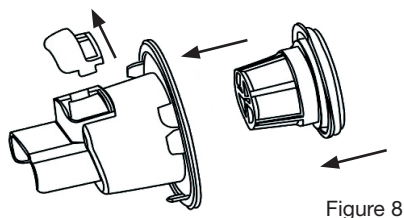

Figure 8
4. Turn the fine particulate filter to remove it from the pre-filter (Fig. 8).